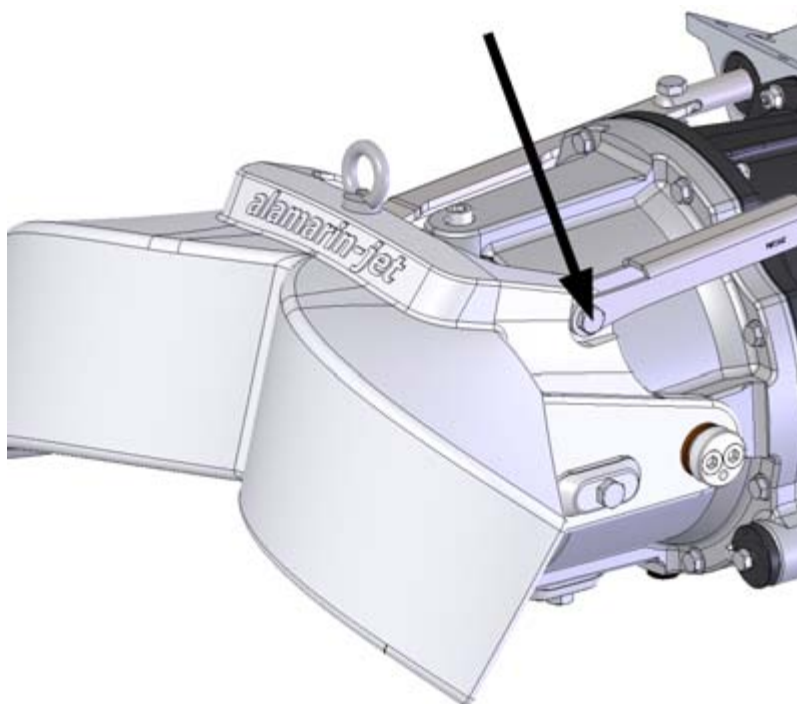
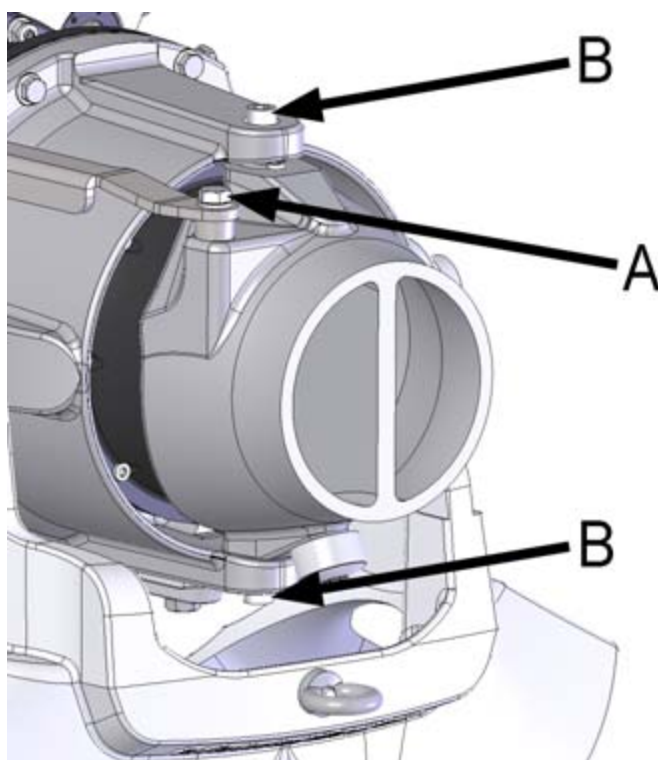

Figure 76. Connecting the reversing deflector connecting rod
Figure 77. Removing the steering nozzle
1. Open the connection of the reversing deflector connecting rod (figure 76) and lower the deflector.
2. Detach the control cylinder connection from the steering nozzle (figure 77, point A).
3. Open the steering nozzle joint screws (figure 77, point B).
4. Attach the connection of the reversing deflector connecting rod (figure 76).
1. Detach the joint between the reversing deflector and hydraulic cylinder (figure 76) and the joint between the steering nozzle and control cylinder (figure 77, point A).